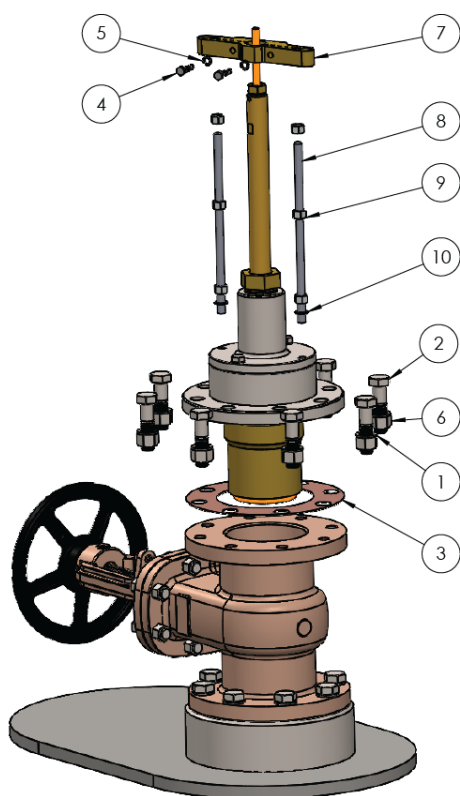

Figure 8 – Exploded view of the sea valve assembly
1. Place the 1.5 mm gasket on top of the gate valve element, positioned between the gate valve and the top assembly, see item 3 in Figure 8.
2. Secure the top assembly with 8 bolts, washers, and nuts (item 1, 2, and 6 in Figure 8).
3. Mount the safety bolts, M12 nuts, and clamp unit, see Figure 8.